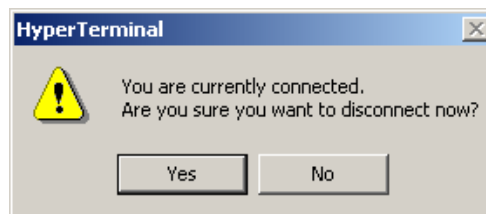

Figure 3-11 HyperTerminal Dialog Box
- l. Select *Exit* from the *File* pull-down menu to close the HyperTerminal application. A *HyperTerminal* dialog box displays (Figure 3-11).